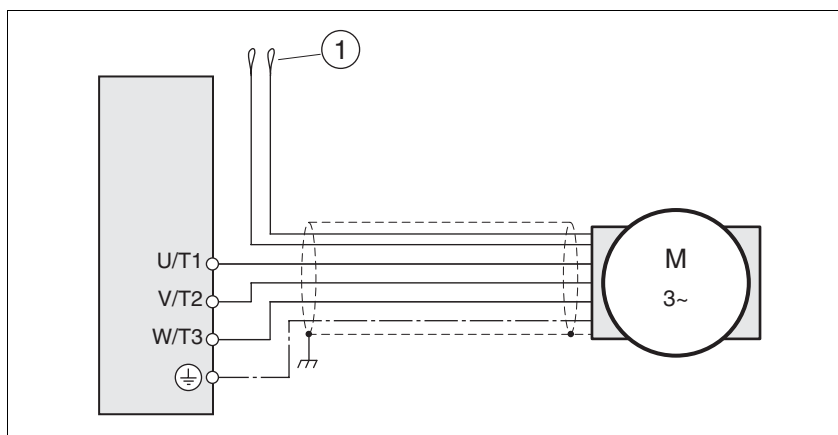

Figure 5.7 Motor wiring diagram, here without holding brake
- ▶ Insulate unused wires at both ends and individually, see Figure 5.7, Pos 1.